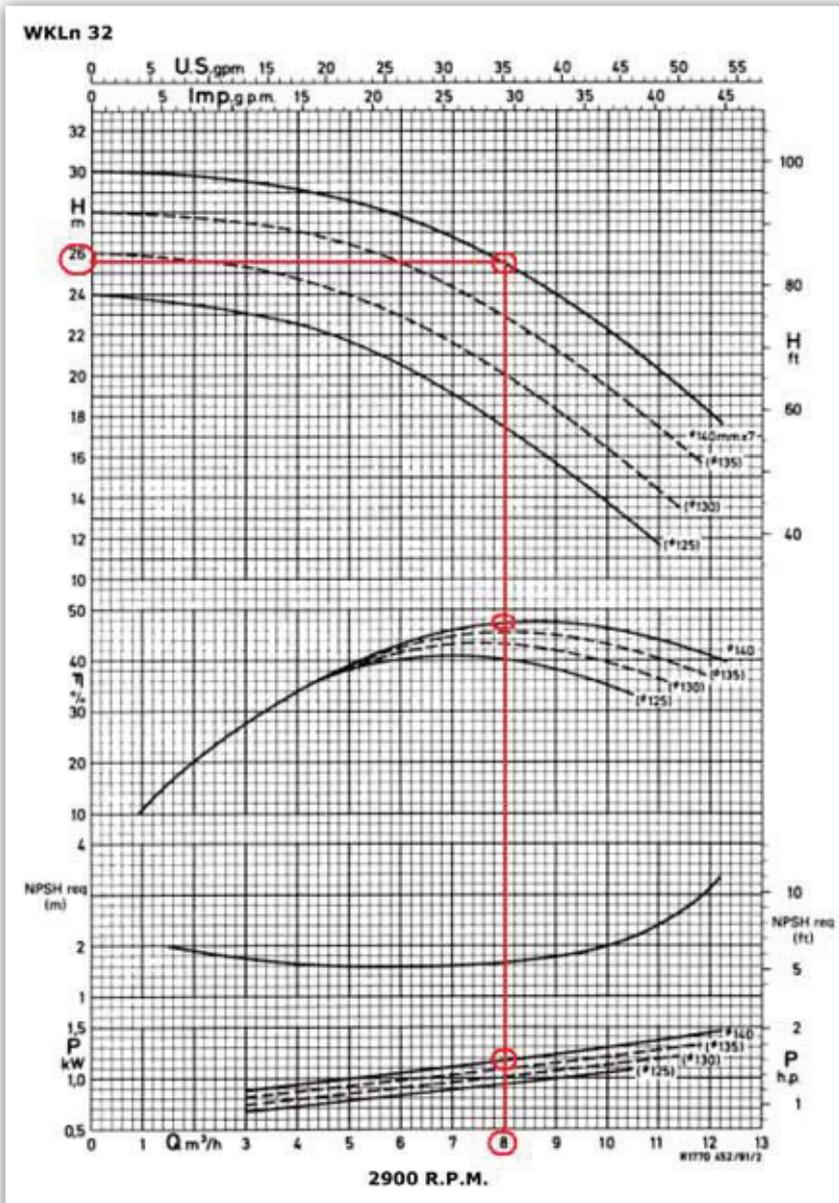

Figure 1. A pump curve for a KSB WKLn 32, 2 900 rpm pump. (<http://www.ksbpumps.co.za>)
As can be seen in Fig. 1, for a flow rate of 8 cubic meters per hour (Q m^3/h), on a full size impeller ($\varnothing 140$ mm x 7), a head of 25,5 meters can be achieved. Then, by looking at the efficiency of the pump, we have achieved a 48% efficiency (η %), before finally resulting in a power consumption of 1,2 kW (P). It's important to remember that this is per impeller, thus the same approach can be used for a multi-stage pump, and everything (except the efficiency) will just need to be multiplied by the number of stages.